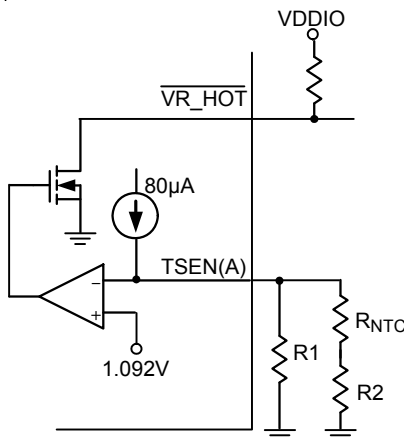

Figure 8. $\overline{VR_HOT}$ Circuit
The $\overline{VR_HOT}$ signal is an open-drain signal which is used for VR thermal protection. When the sensed voltage at TSEN(A) pin is less than 1.092V, the $\overline{VR_HOT}$ signal is pulled-low to notify CPU that the thermal protection needs to work. According to Intel VR definition, $\overline{VR_HOT}$ signal needs acting if VR power chain temperature exceeds 100°C. Place an NTC thermistor at the hottest area in the VR power chain and its connection is shown in Figure 8, to design the voltage divider elements (R1, R2 and NTC) so that $V_{TSEN(A)} = 1.092V$ at 100°C. The resistance error of TSEN network is recommended to be 1% or smaller.